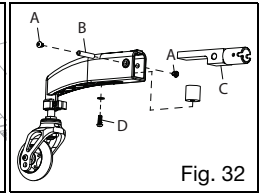

Fig. 32
- b. Remove the 6mm screw from one side of Dynamic 5th wheel arm (Fig. 32:A) using two 4mm Allen wrenches.
- c. Using an Allen wrench, push the threaded barrel (Fig. 32:B) out of the arm assembly.
- d. Slide the tubular receiver (Fig. 32:C) out of the assembly.
- e. Remove the 6mm screw located on the underside of the assembly. This will release the elastomer (Fig. 32:D). Remove the elastomer and set aside.
- g. Thread the 6mm screw and the washer (Fig. 32:D) through the slot and into the threaded insert in the elastomer.
- h. Retighten the 6mm screw (Fig. 32:D). Do not overtighten.
- i. Reinsert the tubular receiver (Fig. 32:C) into the arm. Ensure the flat arm of the tubular receiver is placed over the top of the elastomer.
- j. Align the holes on the arm and the tubular receiver to insert the threaded barrel (Fig. 32:B) and the 6mm screw (Fig. 32:A).
- k. Tighten the 6mm screws (Fig. 32:A) using two 4mm Allen wrenches.